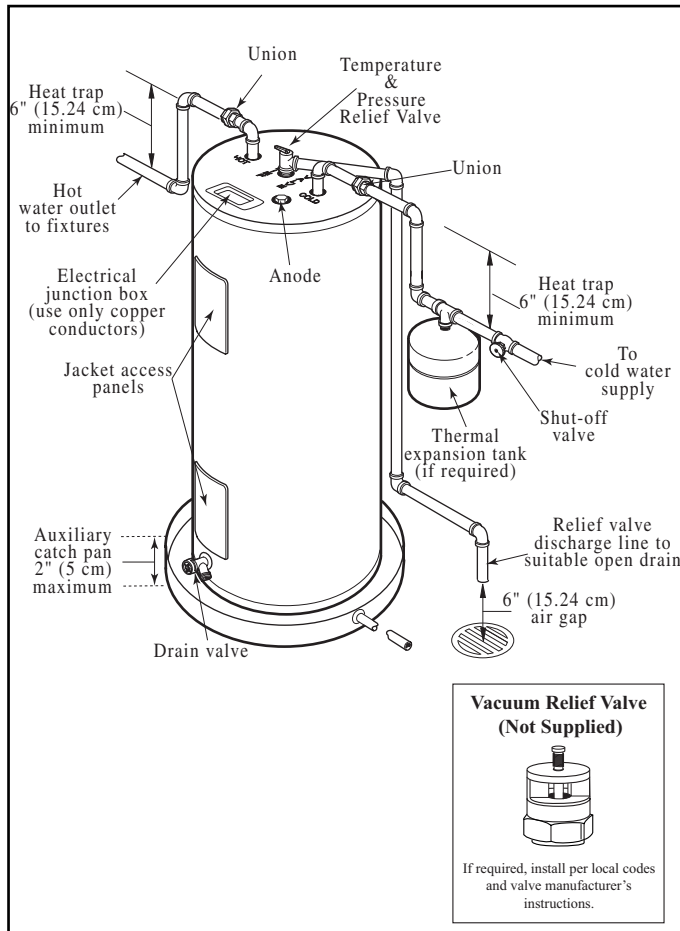

Figure 2. — Typical Installation
The suggested method of controlling thermal expansion is to install an expansion tank in the cold water line between the water heater and the check valve. (refer to Figure 2.) The expansion tank is designed with an air cushion built in that compresses as the system pressure increases, thereby relieving the over pressure condition and eliminating the repeated operation of the relief valve. Other methods of controlling thermal expansion are also available. Contact your installing contractor, water supplier, or plumbing inspector for additional information regarding this subject.
WATER SUPPLY CONNECTIONS — Refer to Fig. 2 for suggested typical installation. The installation of unions or flexible copper connectors is recommended on the hot and cold water connections so that the water heater may be easily disconnected for servicing if necessary. The HOT and COLD water connections are clearly marked and are 3/4" NPT on all models. Install a shut-off valve in the cold water line near the water heater.
3. **RELIEF VALVE** — A new combination pressure and temperature relief valve, complying with the Standard for Relief Valves and Automatic Gas Shutoff Devices for Hot Water Supply Systems, ANSI Z21.22, must be installed in the opening provided and marked for the purpose on the water heater. (Refer to Fig. 2.) No valve of any type should be installed between the relief valve and the tank. Local codes shall govern the installation of relief valves.